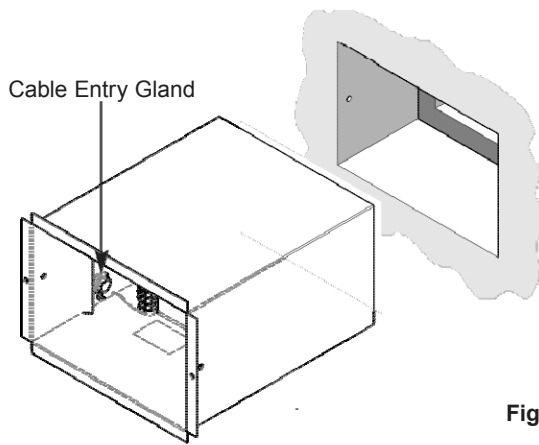

Fig. 6
1. Slide the unit into the mounting hole and ensure that the rear of the mounting flange can be set flush with the internal wall finish (Figs. 6 & 7).
2. Feed the power supply cable through the gland (Fig. 6).